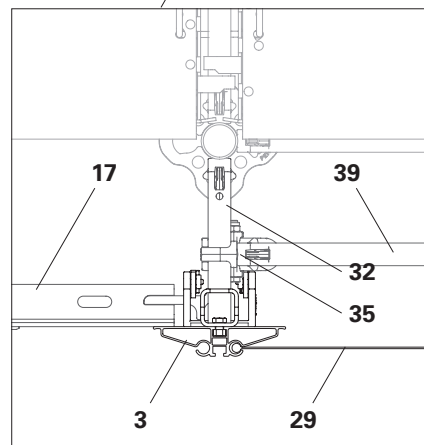

Fig. C6.01a
1. Mount Support Rail Keder CVK 200 (3) instead of Support Rails CVR on the frame columns on which a keder tarpaulin is mounted.
2. On all Supports UC 25 (32) that are assigned to the keder tarpaulin bay, mount Ledger-to-ledge Coupler UHA-2 (35) as close as possible to the support rail.
3. Assemble Horizontal Ledgers UH-2 250 (39), secure wedges with hammer blow. (Fig. C6.01a)